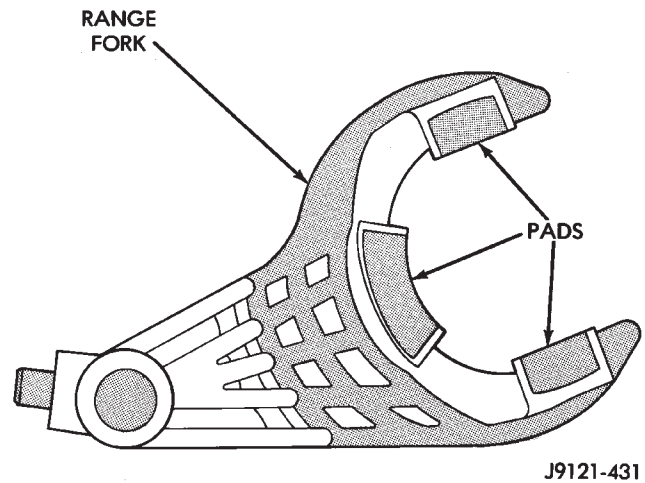

Fig. 42 Range Fork Pads
(25) Inspect range fork pads (Fig. 42). Be sure pads are secure and in position.